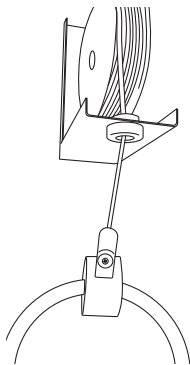

Fig. 4A
- Secure hose clamp to the cord with bolt. (fig. 4A and 4B)